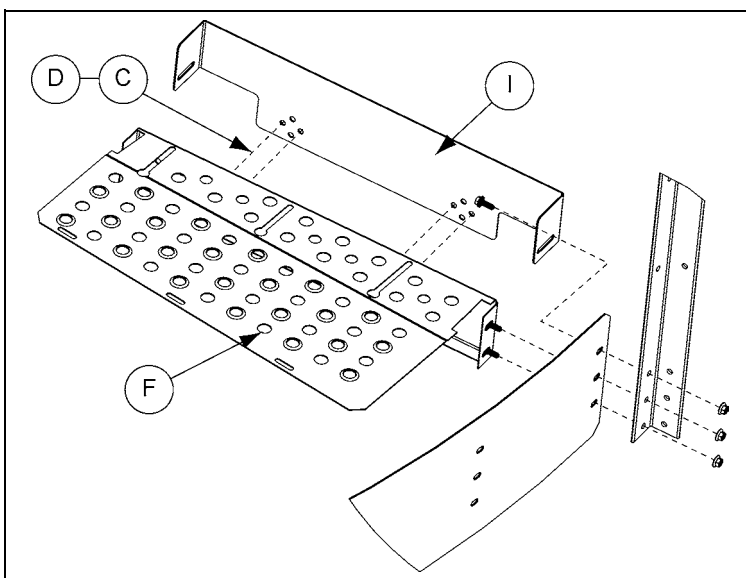

Figure 4E
4. Install the end toe board (I) to the end plank (F) using bolt (C) and nut (D). (See Figure 4E.)